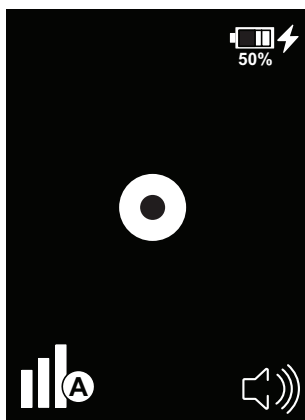

Fig. 20: Steady state display with charger connected
- With the leak detector off and the charger connected, the screen will display charging status as shown in Fig. 20. Charge the leak detector until the display shows 100%.